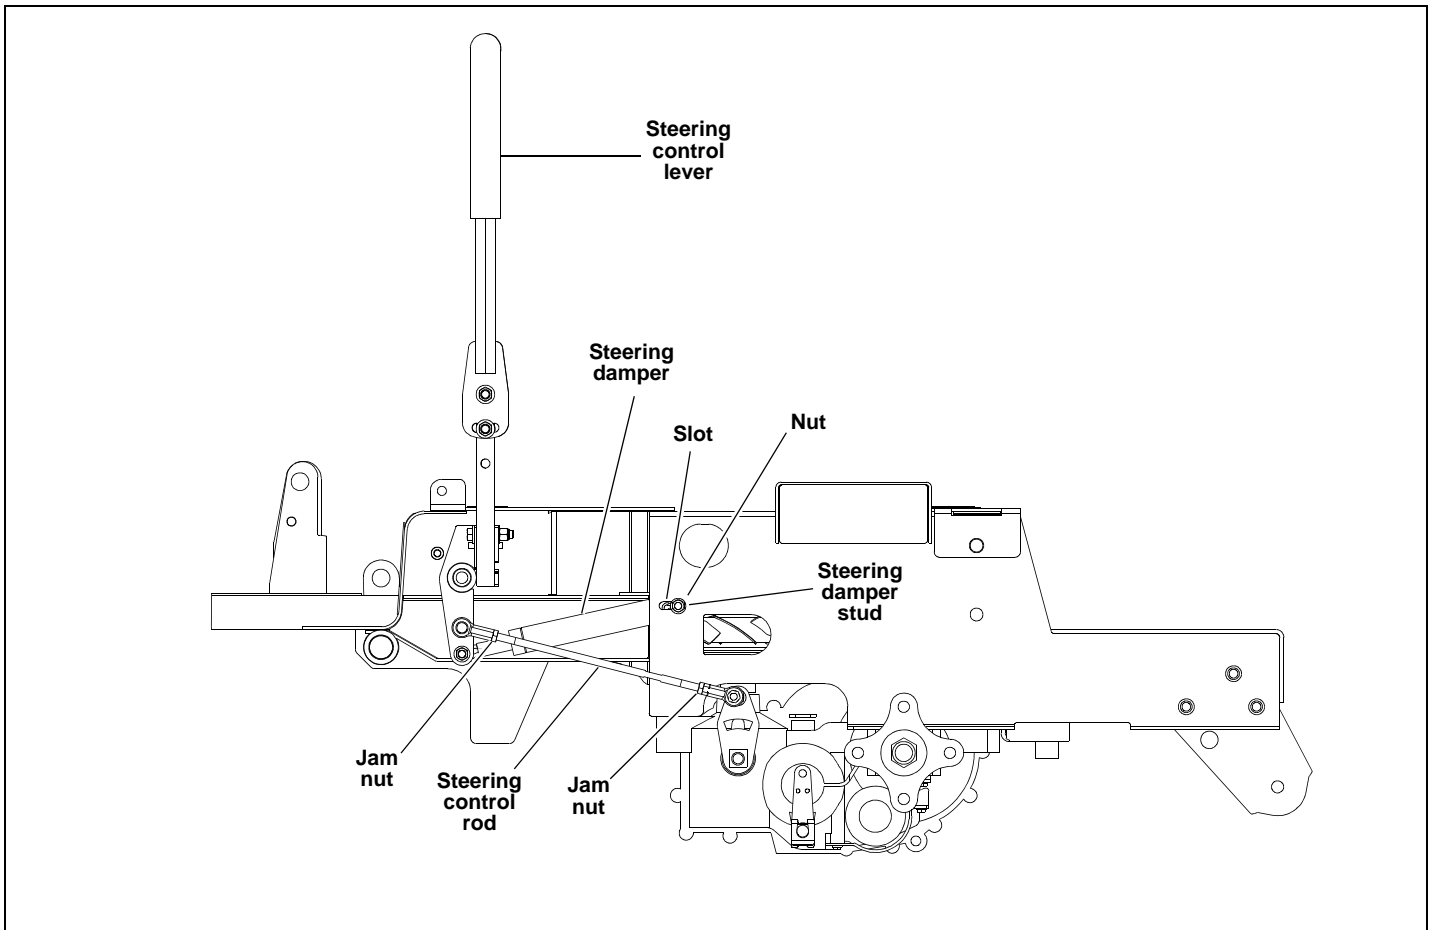

Figure 4-5
4. Loosen the jam nuts on each end of the steering control rod assemblies. Figure 4-5
6. Loosen the nuts on the rear steering damper ball studs. The dampers must be allowed to slide in the slots in the mower frame. Figure 4-5
8. Beginning with the right side of the mower, adjust the steering control rod so that the right side wheel starts rotating forward while holding the steering control lever in the neutral position. Now, adjust the steering rod back the opposite direction to the point when the wheel stops rotating. From that point, turn the steering rod back again ½ turn. This ensures that the steering rod is adjusted so that the transmission control arm is centered in the neutral band of the transmission. Figure 4-5
lever should return to the neutral position. Figure 4-5